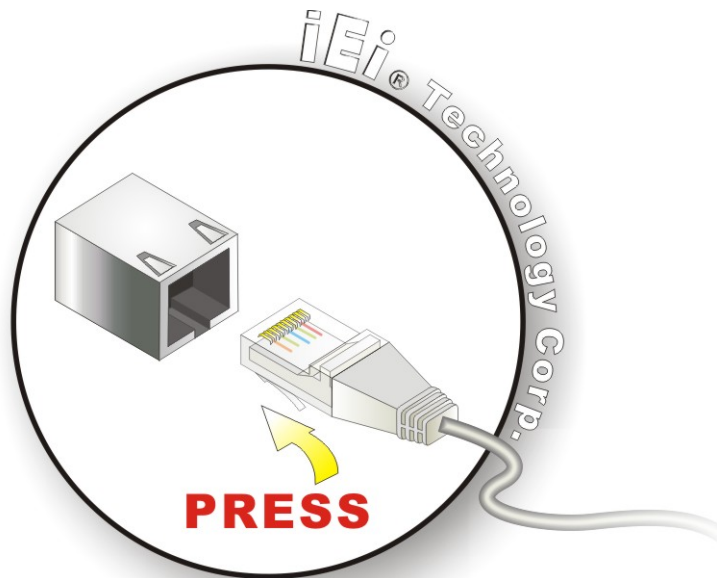

Figure 3-18: LAN Connection
Step 2: **Align the connectors.** Align the RJ-45 connector on the LAN cable with one of the RJ-45 connectors on the TANK-700. See **Figure 3-18**.